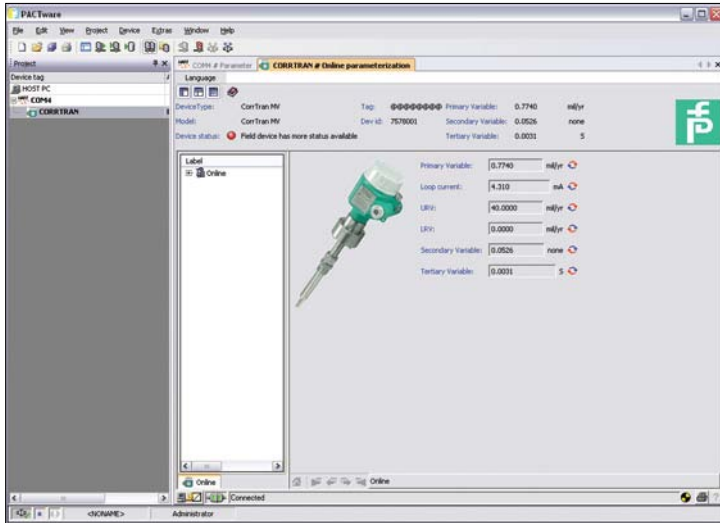

Figure 32. CorrTran MV Online Parameters (read only)
- Right click and select 'Parameters' > 'Online Parameterization' from the toolbar. Your screen should appear as shown in Figure 32.